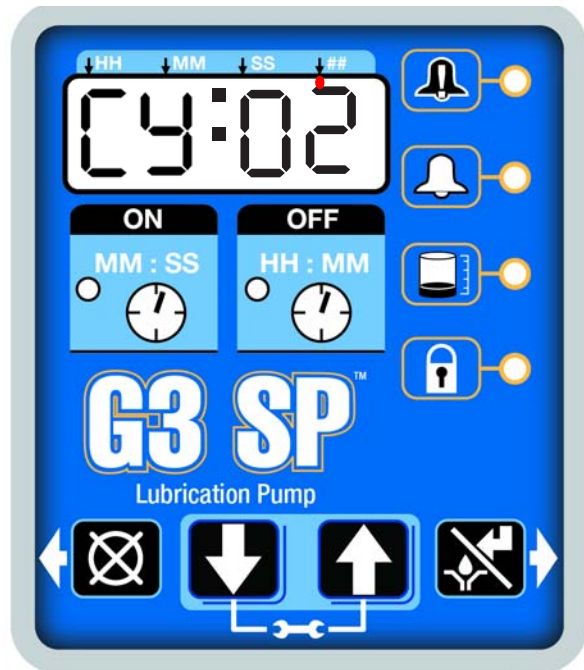

FIG. 29
2. When the OFF Time count reaches zero, the G3 Automatic Lubrication Pump turns the pump on and it runs for the programmed cycle ON (FIG. 29).
- A set number of triggered counts in a cycle based system (CY). Typically a proximity switch connected to a divider valve.
- The display indicates the sensor (CY) and the remaining cycles for that sensor (FIG. 29).
The example shown in FIG. 29 shows sensor CY with 2 cycles remaining.